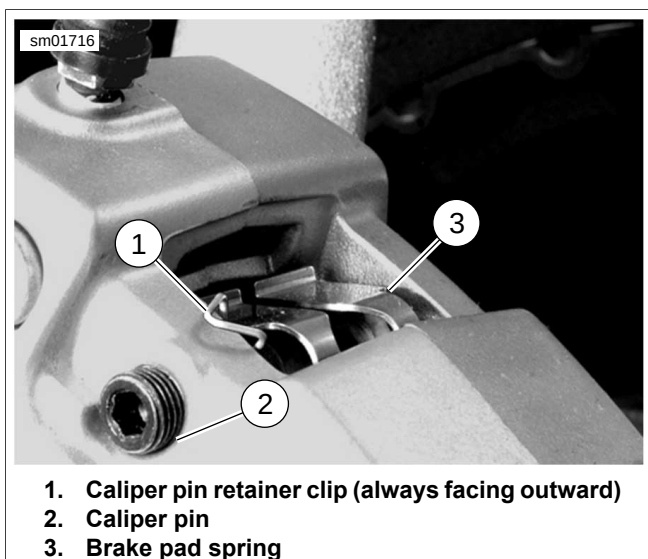

Figure 1-30. Rear Caliper Pad Clip and Pin (6 pt/ 5 mm) (caliper cover removed for photo clarity)
4. See Figure 1-30. Remove screen cover by pulling single prong side first, caliper pin retainer clip, and caliper pin (6 pt/5 mm). Discard pad pin and pad pin clip.